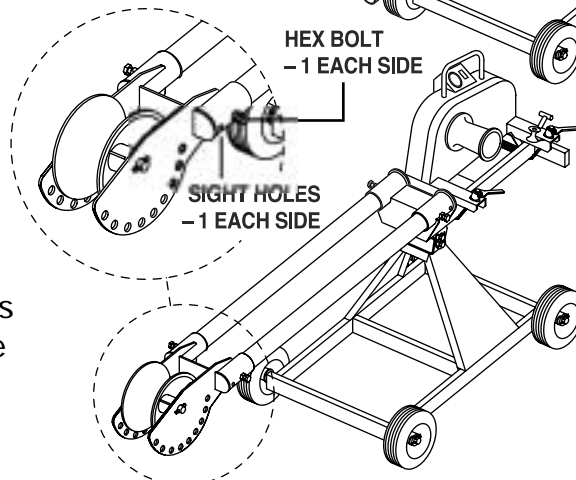

figure 17b
2. Slide the nose unit onto the ends of the 4' boom tubes. Check the sight holes to insure the boom tubes are completely inserted and tighten the hex bolts on each side of the nose unit. ( See Figure 17b. )